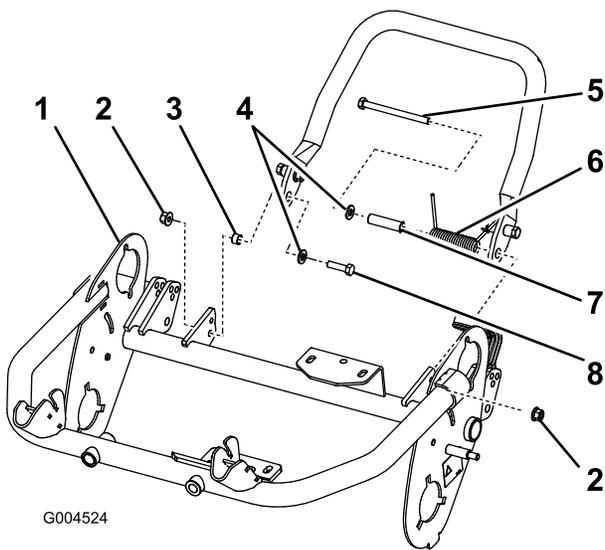

Figure 10
2. Install a washer (M8) onto the small bolt (M8-1.25 x 030). Install the right side of the kickstand to the frame with the bolt and washer, the small spacer, and locknut (M8-1.25) (Figure 10). Ensure the bolt is installed from the inside of the frame as shown in Figure 10.
Important: When installing the spring, place one end of the spring under the rear frame (Figure 10).
5. Install the left side of the kickstand to the frame with the bolt and washer, the large spacer and spring, and locknut (M8-1.25) (Figure 10). Ensure the bolt is installed from the inside of the frame as shown in Figure 10.